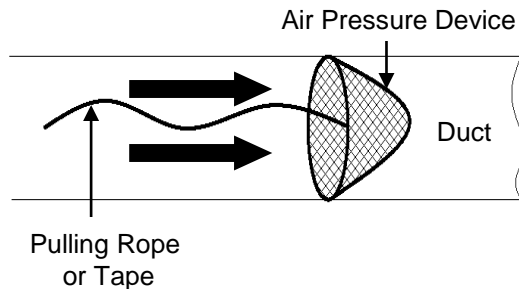

Figure 15
15.1.3 If air-blowing method is used, pulling rope is attached to an air pressure device and blown through the duct until it reaches the adjacent maintenance hole. **See Fig. 15.**